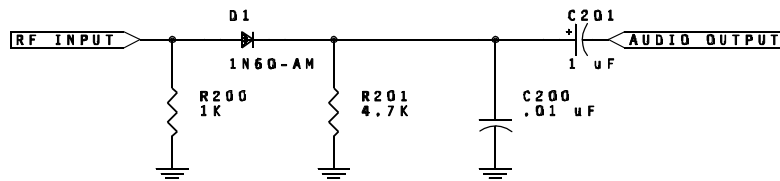

Figure 1 - AM Detector Circuit
The simplest (and most common) AM demodulator circuit is shown above in figure 1. This is a *diode* detector.
1. Design and build the circuit of figure 1; connect the AM OUTPUT of LAB #4 to the input of the detector circuit. Apply a 50 % modulated signal with $F_m = 1 \text{ KHz}$.